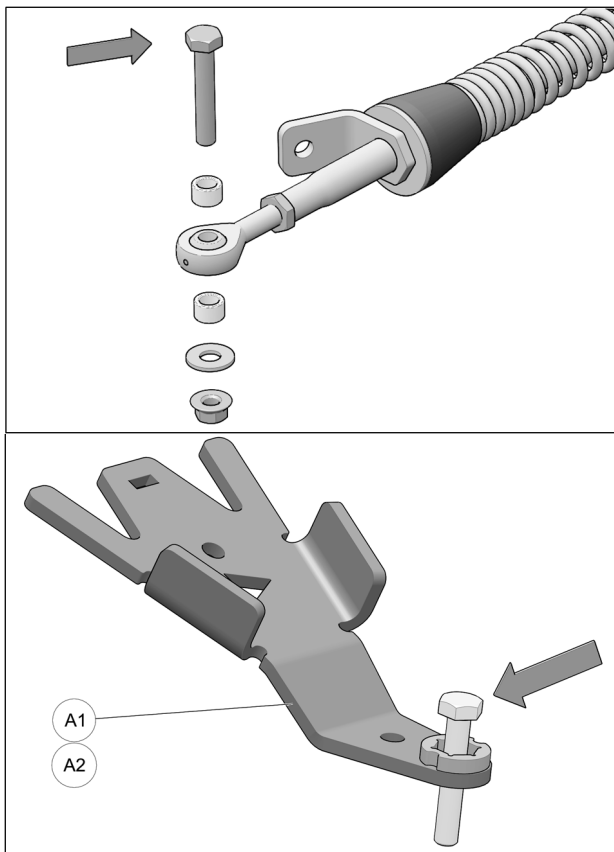

Fig. 13
4. Remove bolt, washer and bushings from front stabilizing rod end and insert bolt in front anchor bracket (**A1-A2**) as shown in Fig. 13